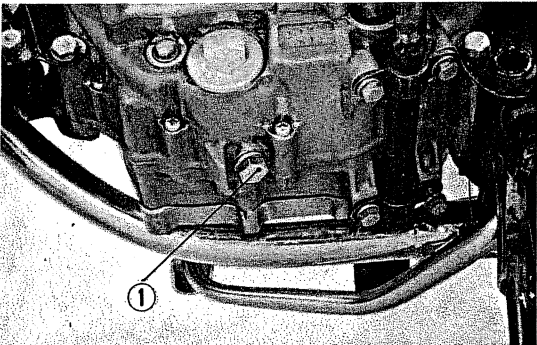

Fig. 13 ① Drain plug
- 1) Remove the oil cap and remove the drain plug to drain oil. (Fig. 13)